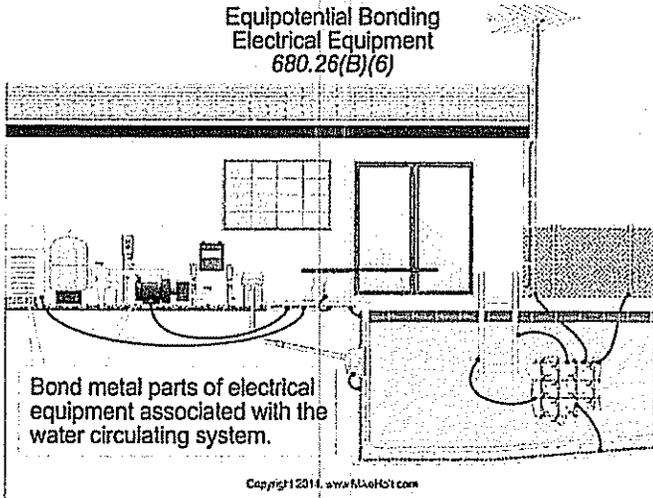

Figure 680-45
**(6) Electrical Equipment.** Metal parts of electrical equipment associated with the pool water circulating system, such as water heaters, pump motors, and metal parts of pool covers must be bonded to the equipotential grid. Figure 680-45